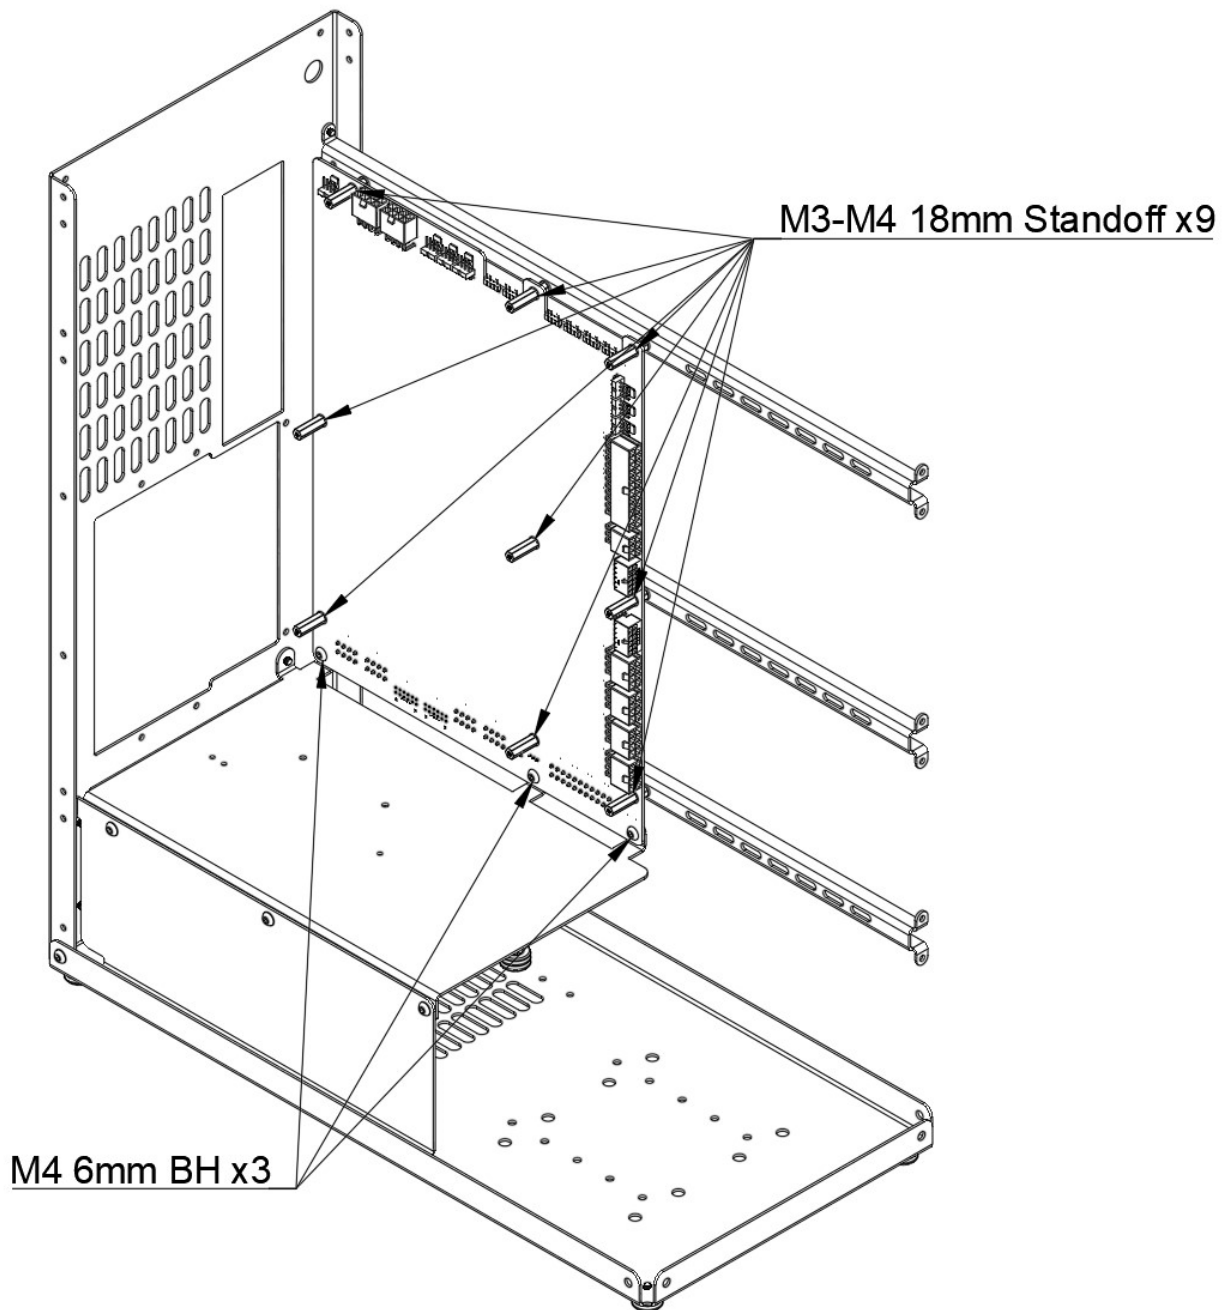

Figure 3C
- Step 9: Install the Absolute PowerBoard and secure it with M3-M4 18mm Standoff x9 in the top 3 rows to the Reinforcing bars, and M4 6mm BH x3 on the bottom row to secure it to the PSU top panel according to *Figure 3C*.